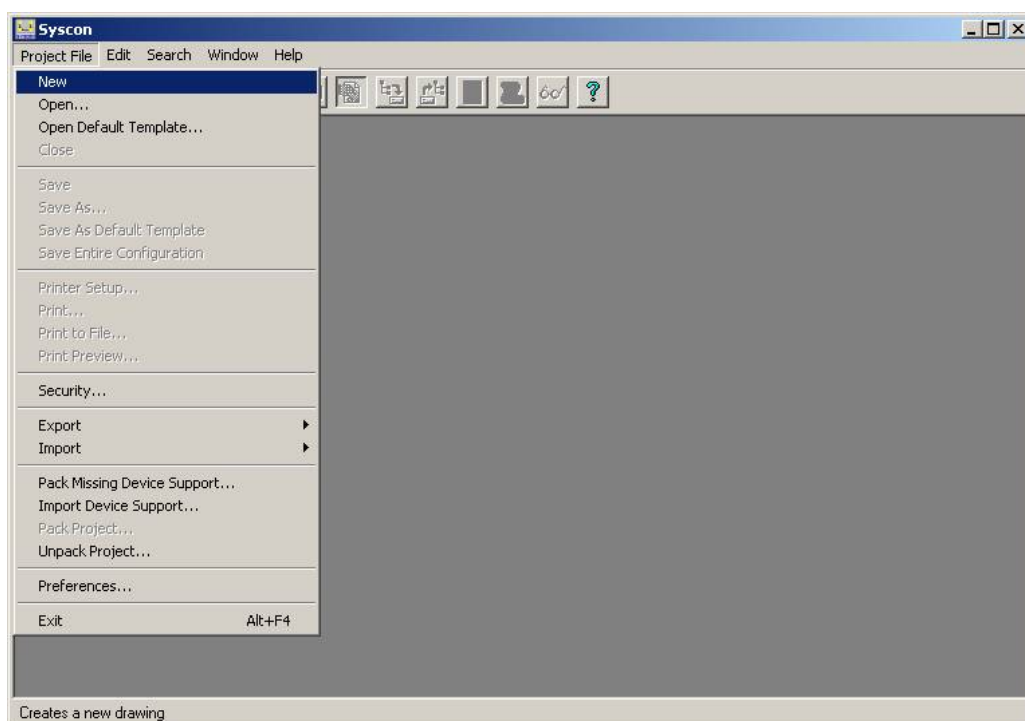

Figura 3.14 – Tela Principal - Software Syscon
2. Na janela principal escolha *Project File* → *New*. Veja a Figura 3.14.